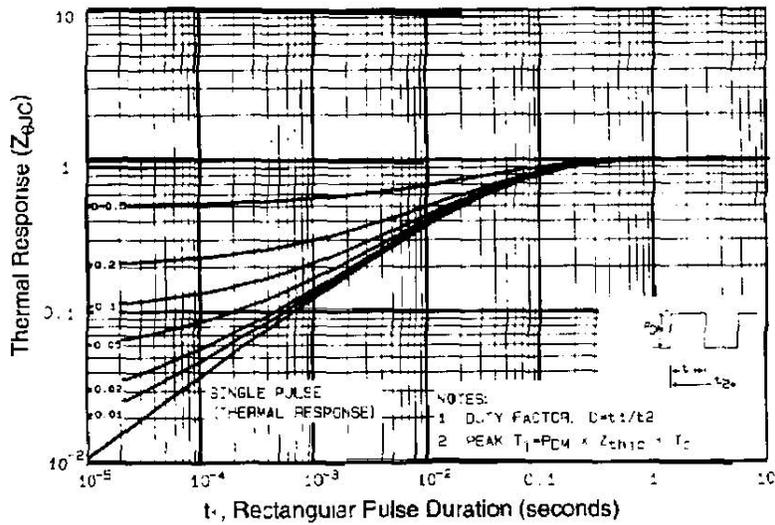

Fig 11. Maximum Effective Transient Thermal Impedance, Junction-to-Case
① Repetitive rating; pulse width limited by max. junction temperature (See Figure 11)
② I_{SD}≤10A, di/dts120A/μs, V_{DS}≤V_{(BR)DSS}, T_J≤150°C